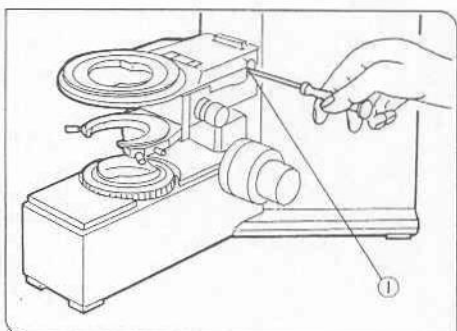

Fig. 42
4 Stage Height Adjustment (Figs. 42, 43)
(Figs. 42, 43)
2. Loosen the stage bracket clamping screw ① and remove the stage bracket. (Fig. 42)